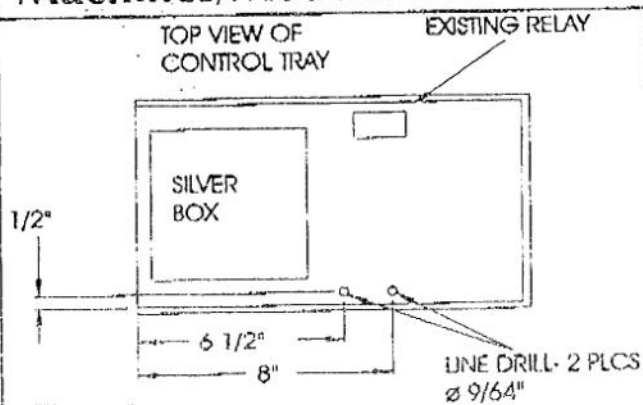

Figure 1
PROCEDURE: Read all instructions thoroughly and refer to figure 1 through 3 before starting. Platform must be in stowed position on a firm level surface.
2. As shown in figure 1, drill two 9/64" (4mm) holes and mount Relay (#063951-001) to control tray using supplied attaching hardware (#011715-006 - 6/32 Screw, 2 ea.) (#011248-047 - 6/32 nut, 2ea) and (# 011240-001 - flat washers, 4 ea).